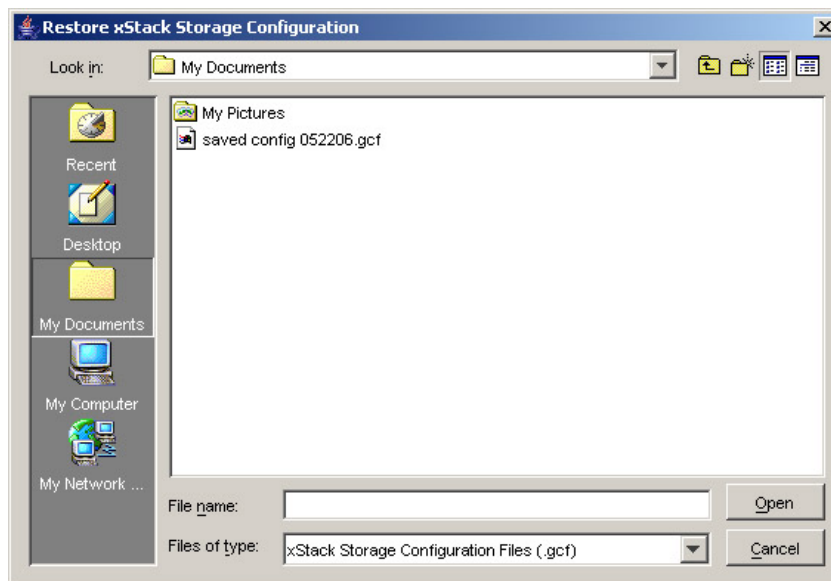

Figure 5-52. Restore XStack Storage Configuration Dialog Box
1. On the **File** menu, click **Restore XStack Storage Configuration**. The Restore XStack Storage Configuration dialog box appears (see Figure 5-52).